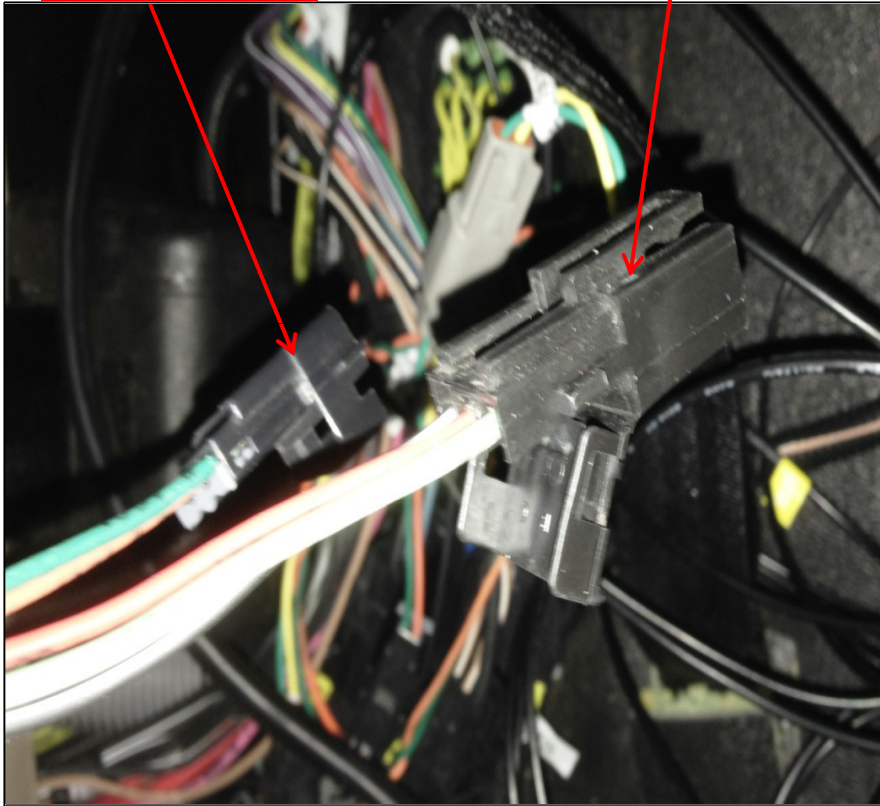

Figure 1
3. Connecting power, ground and ignition. “Insure ignition is in the off position”. Power connection point is located behind driver side “B” pillar. Remove seat belt recoil cover driver side, this will allow access to J1939 and J1708. Open “B” pillar panel door behind driver seat to access power, ground and ignition and power fuse panel. “Refer to Figures 1 & 2”.
7. Connect DTY20749 J1708 cable connector into vehicle J1708 connector, adjacent to J1939 Terminating Resistor, shown in “Figure 1”.